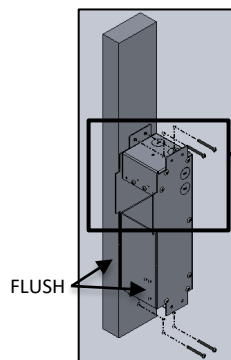

FIG. 9- J-BOX ASSEMBLY TO WALL
4. Attach RECESSED JUNCTION BOX to WALL STUD or CEILING JOIST at desired height and location before drywall is installed as shown below in FIG.9. Use appropriate anchor screws to secure to stud.